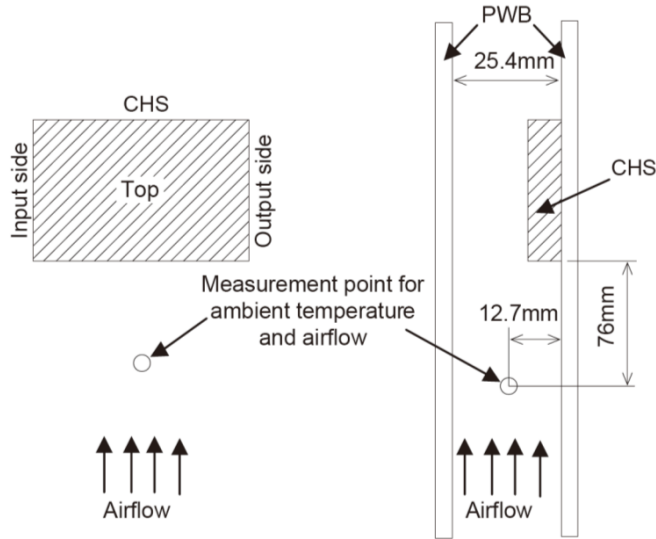

Fig.5.10.21
- Fig.5.10.21 ~ 5.10.49 show the derating curve in the condition that is measured as shown in Fig.5.10.20.